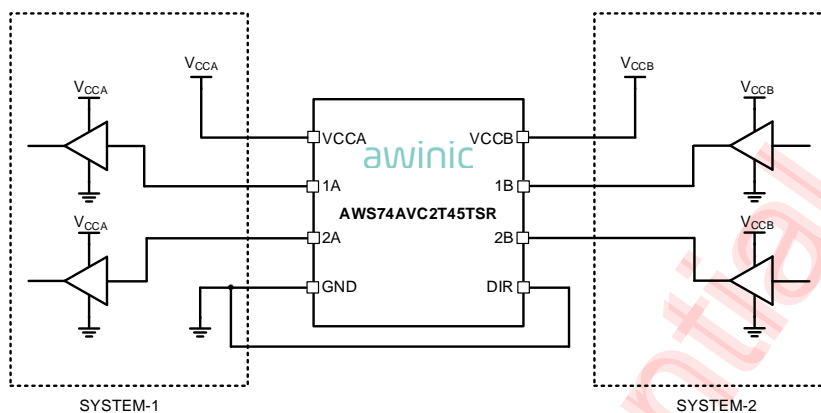

Figure 5 Unidirectional Logic Level-Shifting Application
- Figure 5 shows the AWS74AVC2T45TSR being used in a unidirectional logic level-shifting application. The following table lists the pins and pin descriptions of the AWS74AVC2T45TSR connections with SYSTEM-1 and SYSTEM-2.